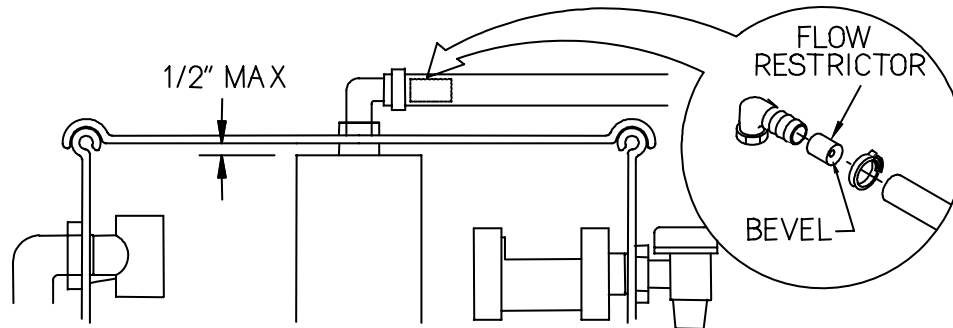

Figure 7
5. Connect the pump outlet to the elbow in the reservoir tank lid with a length of 1/2" ID PVC tube. Secure the ends with hose clamps (see Figure 7).
Note: A flow restrictor is included with the Skimerator. If the reservoir fills faster than it empties the restrictor can be used to slow the flow rate. A slower flow rate allows for longer settling time and reduces aeration in the reservoir. When the restrictor is removed, or drilled out, the settling time is decreased but aeration is improved. If more flow is desired, drill out the restrictor in 1/32" increments until the desired flow is obtained. The restrictor is installed in the end of the 1/2" ID tube next to the elbow. The beveled end should be toward the pump (see Figure 7).
6. Check the distance between the top of the baffle and the reservoir lid when the lid is installed. The distance should be 1/2" or less (see Figure 7). Install the lid, check all hose connections and plug the pump into an outlet. After the pump is primed coolant will fill the reservoir and flow into the sump.